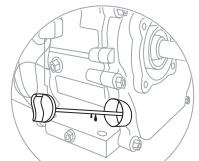

FIGURE 1
- CHECK THE ENGINE OIL LEVEL; **(FIGURE 1)**